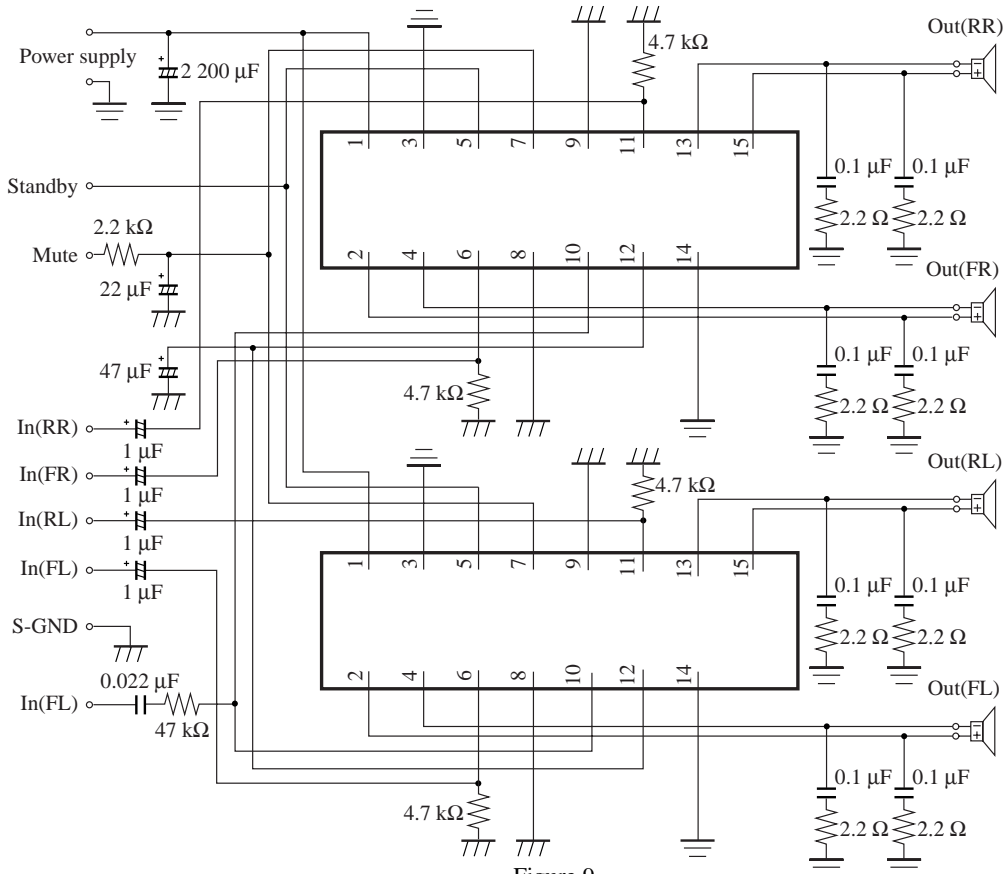

Figure 9
Figure 9 shows the application circuit example when two ICs are used :
6) If one IC is used as a combination of L or R of the front and the rear, the cross-talk between the L and R increases. The circuit shown by figure 9 becomes thermally advantageous when there is a difference in the output between the front and rear.